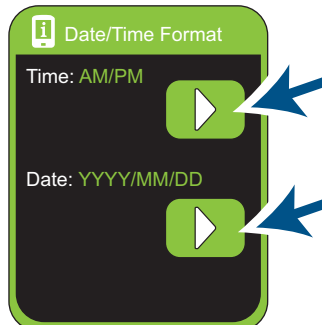

Figure 79. Displaying the date or time format
3. Tap the appropriate  until the desired date or time format is displayed (Figure 79).